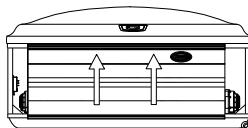

Figure 13.2b
- Grab the bottom of the front panel and slightly lift to release it from the top mount, Figure 13.2b. Tilt the panel and pull down to remove. Place the panel in a safe location to prevent from damaging it. Note: The Jacuzzi indicator light is connected to the light harness. Take care when removing the panel to avoid damaging the wires or light.